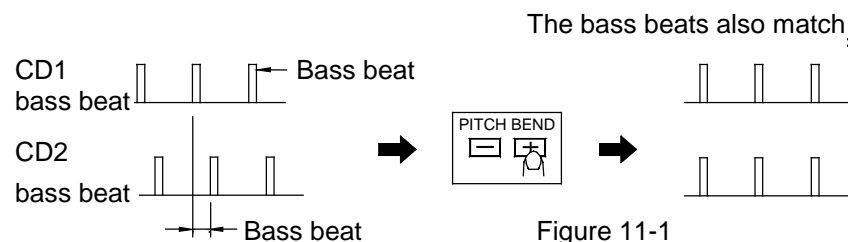

Figure 11-1
- ① Use the pitch slider to adjust the BPM statically.
- ② Use the PITCH BEND buttons to change the BPM temporarily.
- ① To adjust the BPM by sliding the pitch slider up or down, press the PITCH button to turn on the PITCH adjustment function before use.
- ② Slide the pitch slider up to decrease BPM, or down to increase BPM. The adjustment range is +/-10%.
- Figure 11-1 shows an example of how to use the pitch bend function. In this example, both players are playing and the BPM has already been matched with the pitch sliders.